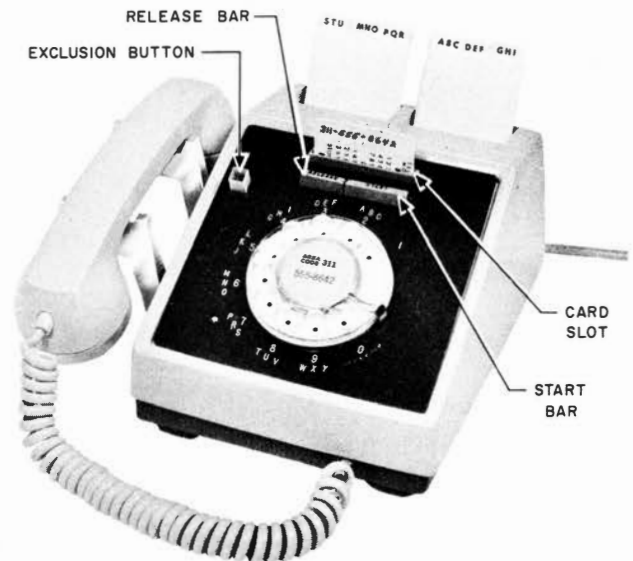

Fig. 1 - 660-Type Telephone Set
2.01 The 660-type telephone set (Fig. 1 and 2) is similar in appearance to other card dialer-type sets.
2.08 The exclusion feature, if provided, is actuated by pulling up on the plastic button (Fig. 1) at the left top of the face-plate. The exclusion switch is connected to the switchhook assembly by a wire link so that exclusion is cancelled when the handset is restored to its cradle. Sets can be converted to provide exclusion by the installation of a set of parts. (See Table A.)